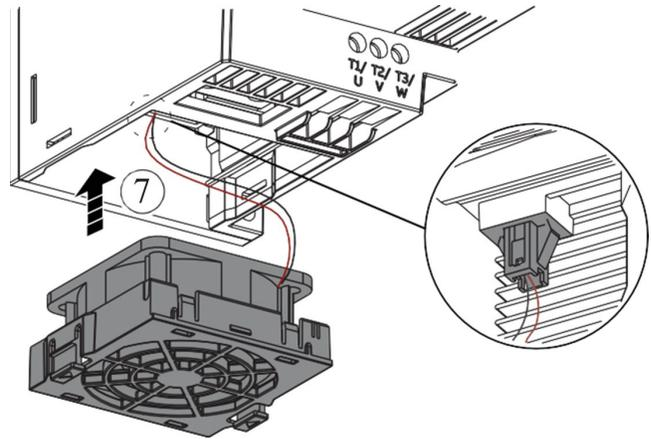

Fig. 53 — Place Fan Cover Back into Drive
7. Connect the fan power cable (see Fig. 53).